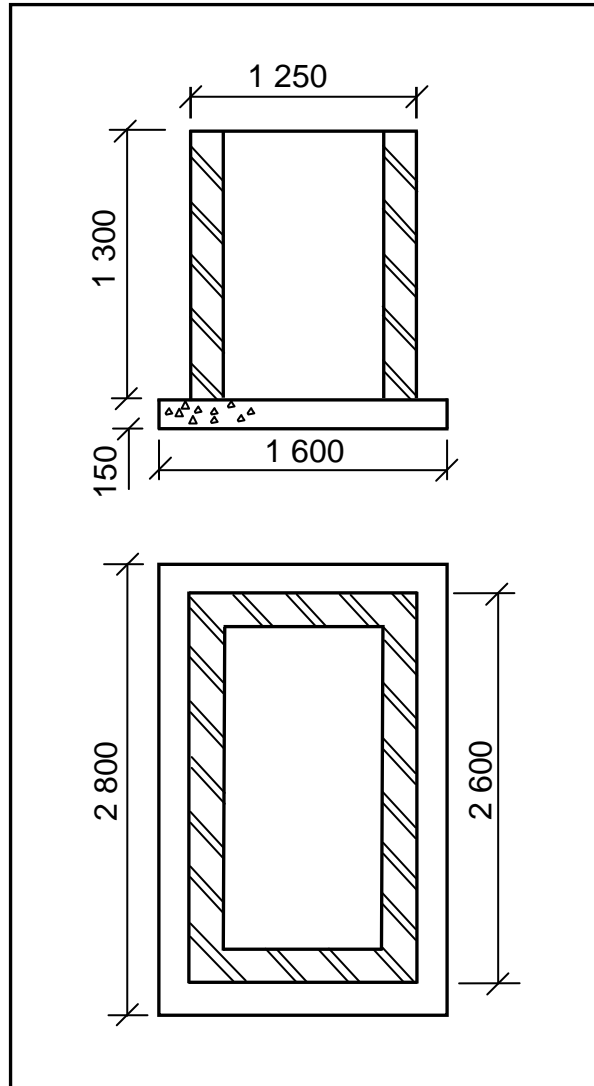

FIGURE 3.4
3.4 FIGURE 3.4 below shows the incomplete sectional views through the bricks and concrete floor slab of a manhole.